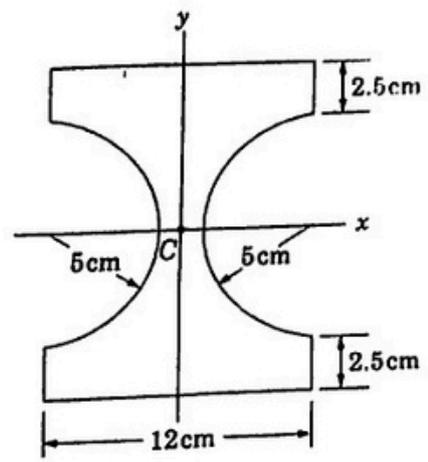

Fig.4.
- (b) Determine the Moment of inertia of the cross section as shown in Fig.4 with respect to centroidal axis. (5)